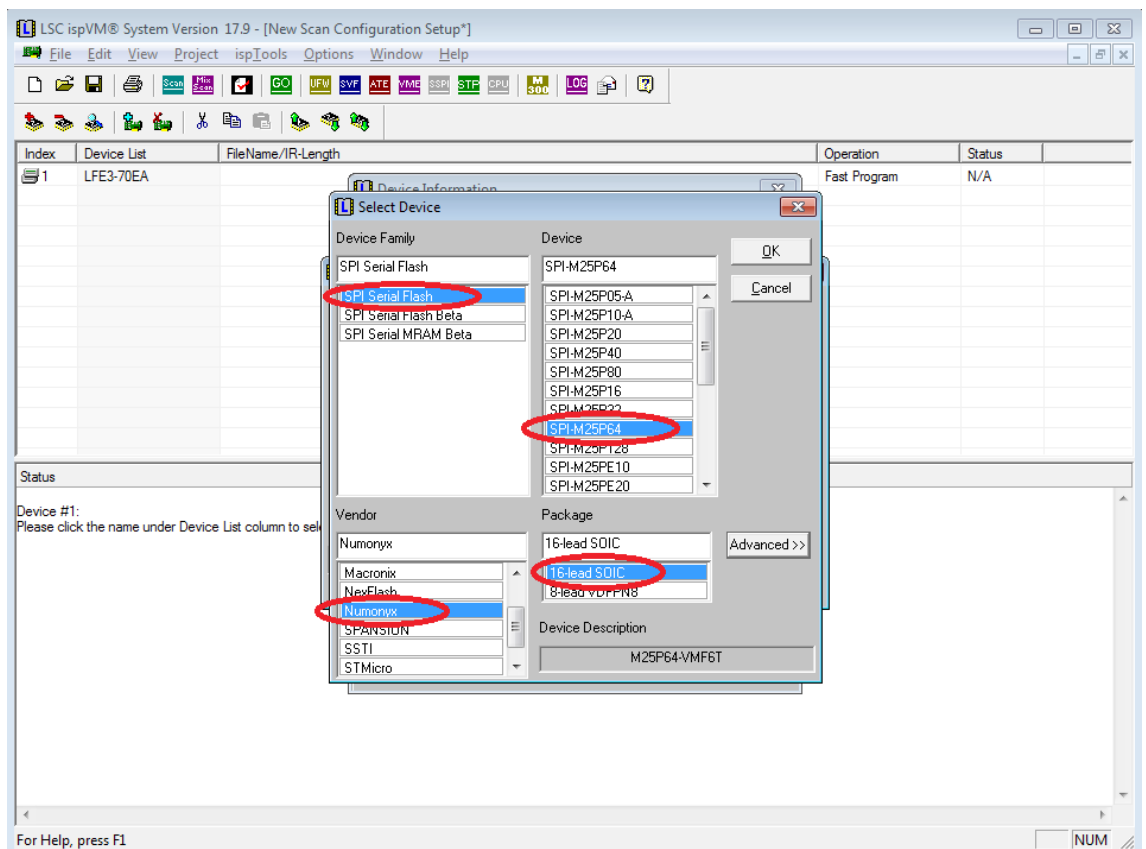

Figure 7. Flash device specification.
7. Choose flash device as shown on Figure 7 and press **OK**: